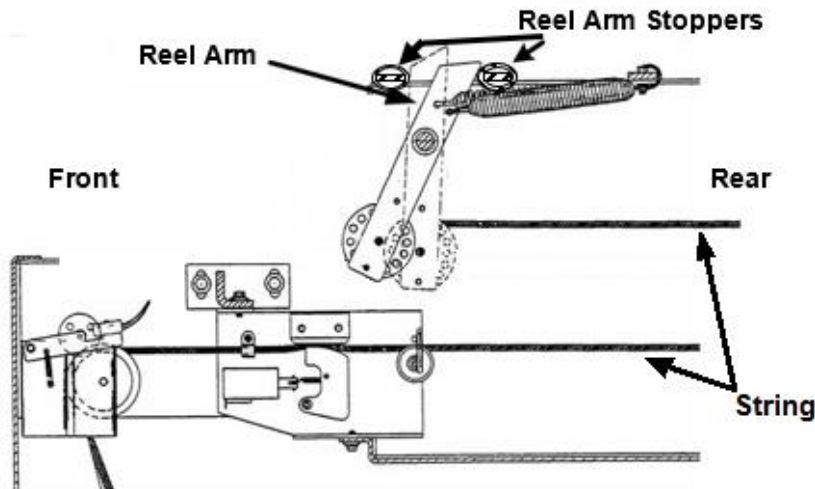

Figure 2-2, Reel Arm Position
4. Adjust the strings with the take-up reels (pull the reel out from the reel arm and rotate) so that the pins just touch the stabilizing rings on the underside of the lower table, are all at the same height, and so that the top of the reel arms are still touching the rear reel arm stopper (see Figure 2-2).